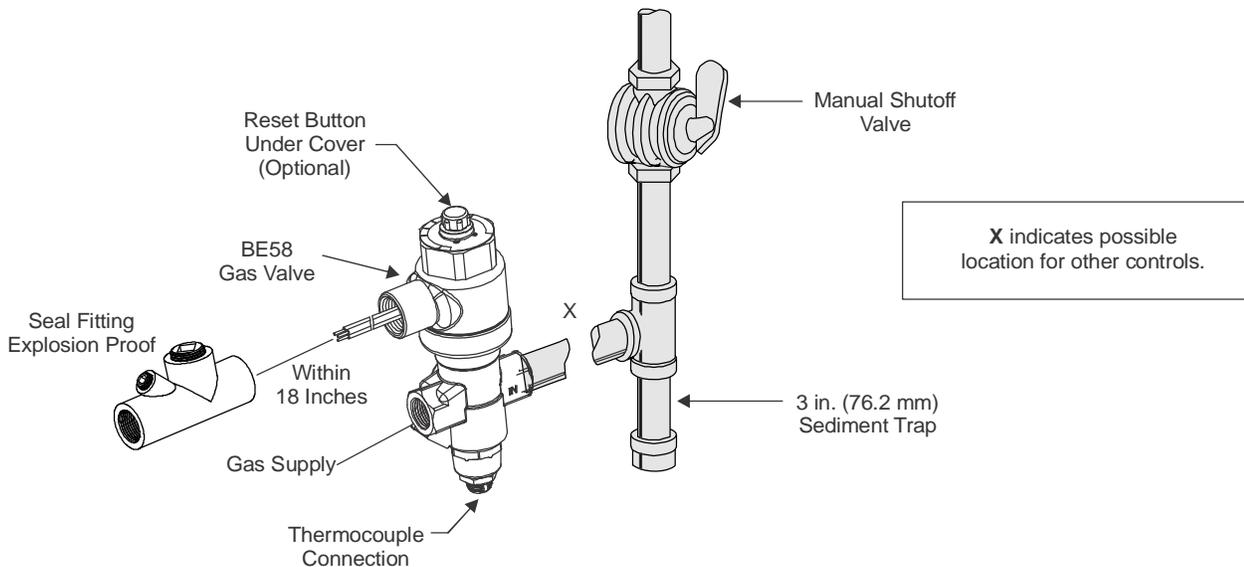

Figure 1: Typical BE58 Installation
6. Mount the valve to the pipework. The BE58 valve may be mounted in any convenient position. Use an approved pipe joint sealing compound on male threads before assembling. Remove excess compound after mounting the valve to the pipework. Threads of the pipe and nipples must be smooth and free of tears and burrs. Steam clean all piping to remove foreign substances such as cutting oil or thread chips. A sediment trap should also be installed in accordance with the National Fuel Gas Code (Z223.1/NFPA 54). See Figure 1.